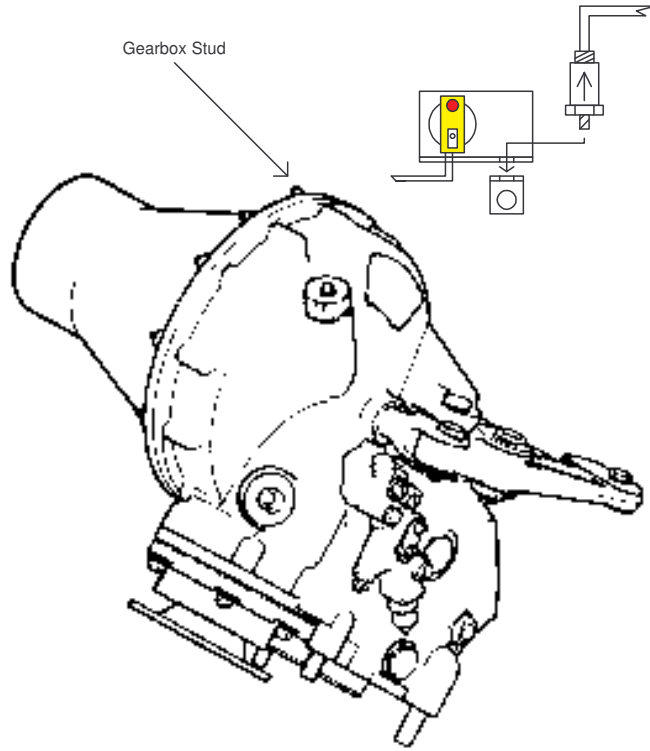

Figure 1
2. Locate the 90 degree gearbox stud at the 11:00 position as shown below. Remove nut from stud on gearbox. Install 991D-1 Sensor (Item 4) through 5/16 hole in General Purpose Phototach Mount (Item 7). Thread Sensor into Sensor Mount (Item 6). Install the assembly on the gearbox mounting stud at the 11:00 position and secure with nut. The connector for 991D-1 sensor should be pointed up. (Figure 1)